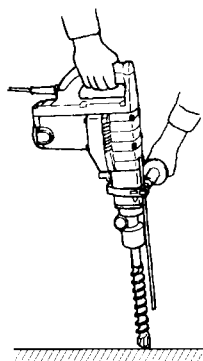

Fig. 9
- (1) Loosen the side handle and insert the straight portion of the stopper into the handle bolt hole from the front cover.
- (2) Loosen the side handle, move the stopper to the specified position and rotate the grip of the side handle clockwise to fix the stopper.
5. Warming up (Fig. 9)